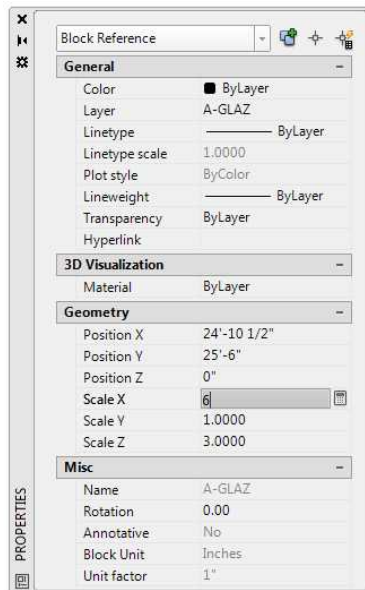

FIGURE 7.38: Change the block's X scale factor in the Properties palette.
8. In the Geometry rollout, locate the Scale X parameter and change its value to 6, as shown in Figure 7.38.